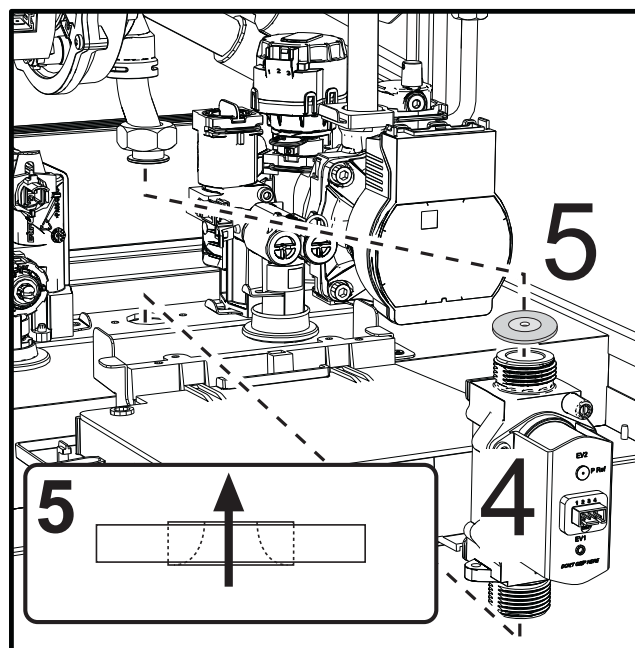

fig. 48
- Remove the gas valve "4" and the gas diaphragm "5" (fig. 48).